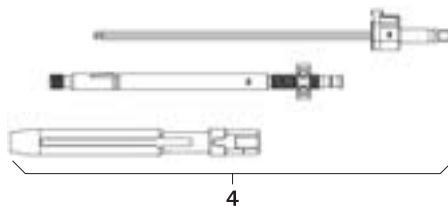

Fig. 10
- Mount reduction lever 4, see Fig. 10.